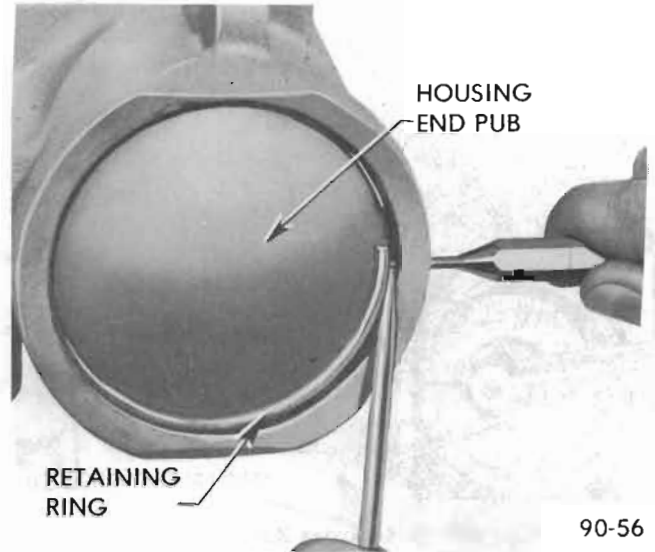

Figure 90-56 Removing Housing End Plug Retaining Ring
3. Rotate housing end plug retainer ring so that one end of ring is over hole in gear housing. Spring one end of ring with punch to allow screwdriver to be inserted to lift ring out. See Figure 90-56.